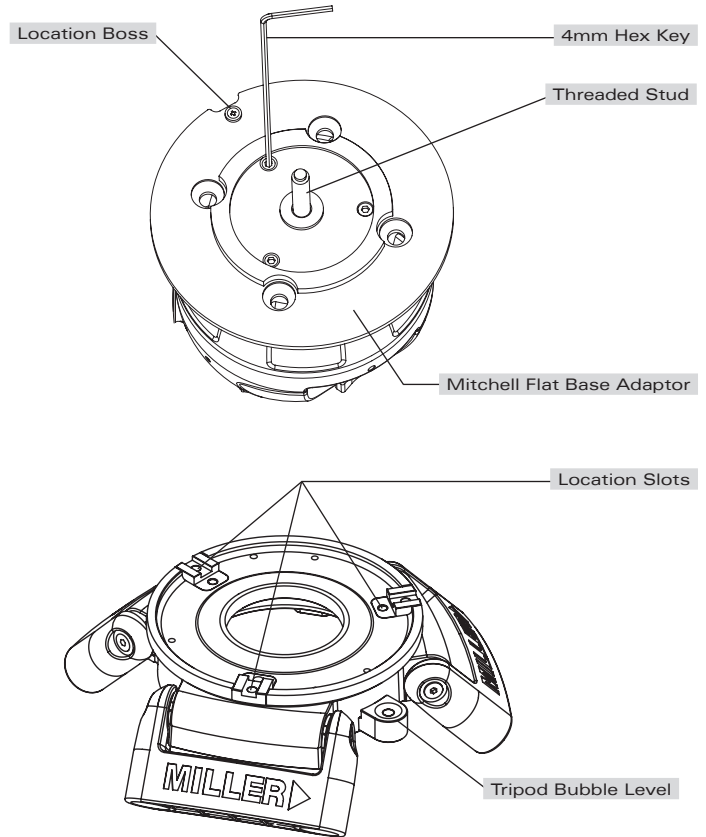

Fig. 5
- 1.2 Attach the MITCHELL BASE ADAPTOR (#1225) to the CLAW BALL, as shown, and tighten the three M5 screws using a 4mm Hex Key (fig. 5).
- 1.3 Ensure that the TRIPOD is level, adjust the TRIPOD if necessary, such that the bubble is inside the black circle (fig. 5).